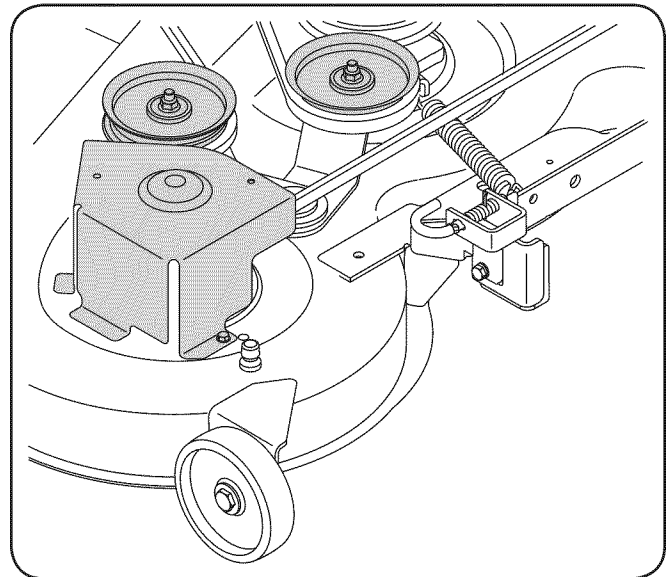

Figure 7-7
5. Remove the belt guards by removing the self-tapping screws that fasten them to the deck. See Fig. 7-7.
6. Loosen, but not remove, the two idler pulleys. See Fig. 7-7.